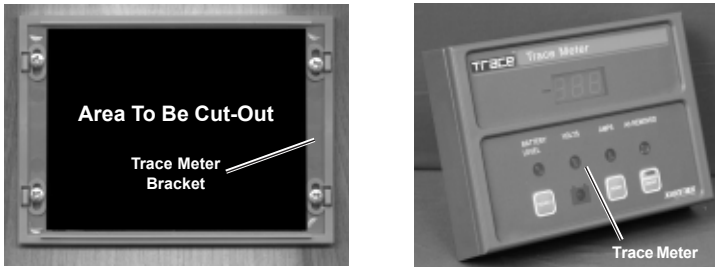

Figure 2-4
- Mount the bracket using the screws (and anchors if necessary) supplied. See Figure 2-4. Do not overtighten the screws.